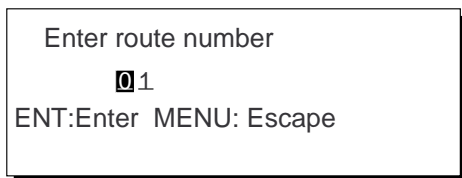

Figure 5-5
- 5) Press the [NU/CU ENT] key to finish. The route number entry display appears as shown in Figure 5-5. If no route number appears or you want to change the route number shown, go to step 6 to enter route number. To register the route under the number shown, go to step 8.